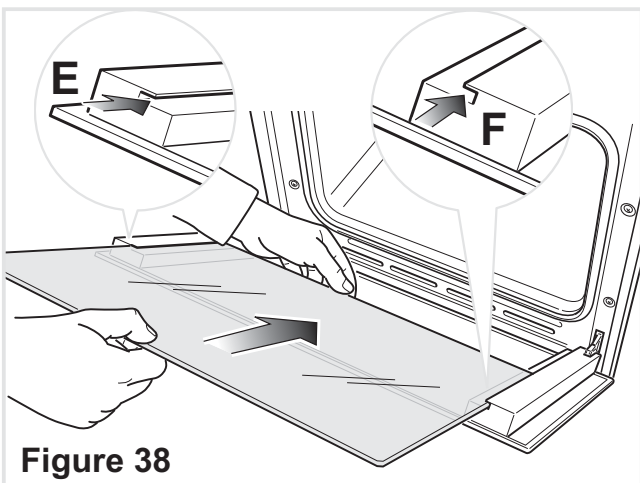
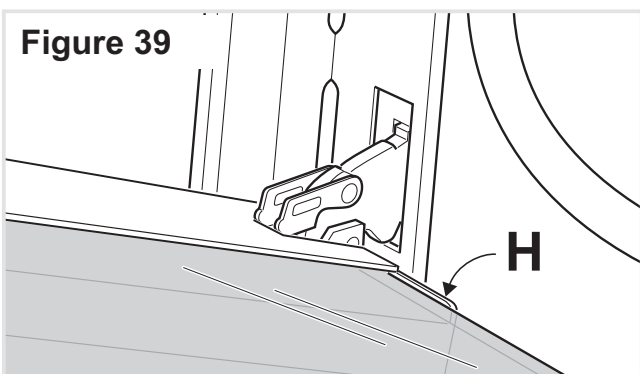

Figure 38
Figure 39
- Insert the pane in the left “E” and right “F” slide guides (fig. 38), and gently slide it to the retainers “H” (Fig. 39).